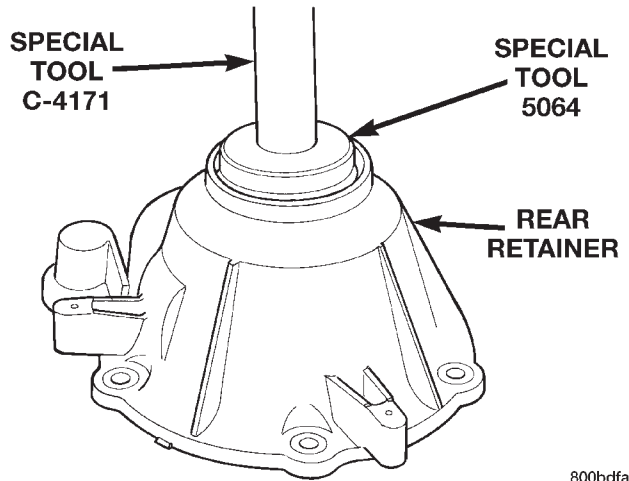

Fig. 87 Installing Rear Bearing In Retainer
- (1) Remove rear bearing in retainer using Installer 8128 and Handle C-4171.
- (2) Install rear bearing in retainer with Tools C-4171 and 5064 (Fig. 87).